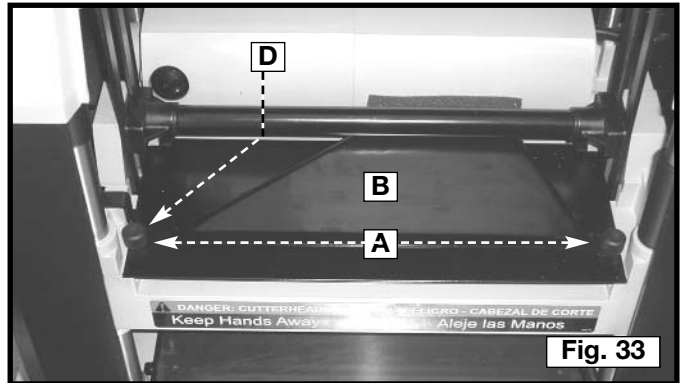

Fig. 33
11. After both knives are installed, depress the cutterhead lock (D) Fig. 33. Place the cutterhead guard in position and over the cutterhead lock. Slide the guard in as far as possible. Replace the two screws (A) Fig. 33 that were removed in **STEP 3**.